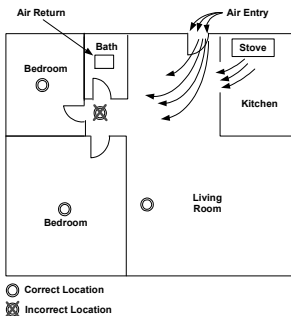

Figure 6: Recommended Smoke Detector Locations
- ◆ Do not mount smoke detectors in the path of fresh air intake. The flow of fresh air in and out can drive smoke away from the smoke detector; thus reducing its efficiency. Figure 6 indicates the correct and incorrect locations concerning this problem.